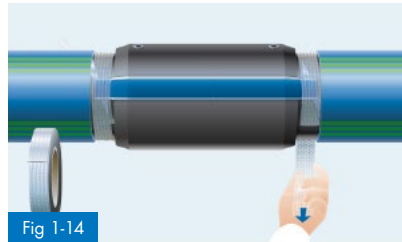

Fig 1-14
- Masking of the electrical connections - in the area of the gap between the pipe and the electrofusion fitting - with duct tape (Fig. 1-14)